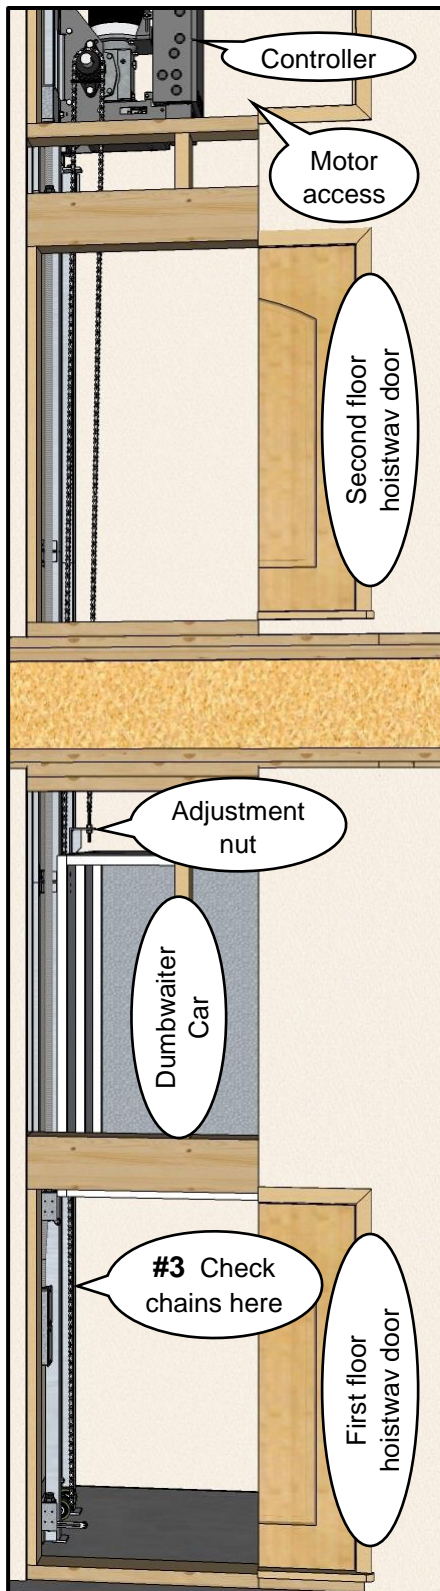

Figure 11
- 3** Verify that both the front and back chains are taught. (see Figure 11) If there is any slop in the chain continue on to the next step. If the chains are both taught go on to **Step 7**.